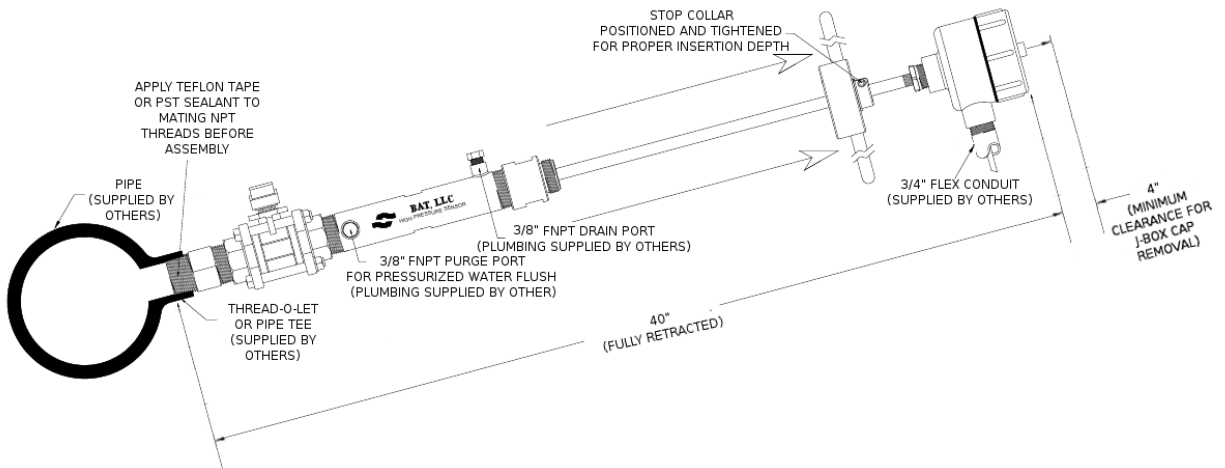

Figure 2. Hot Tap Assembly (Fully Retracted Sensor, Valve Closed)
- Allow enough room for the installation of the hot tap assembly at full extension and an additional 4" clearance for the removal of the junction box cover (#12). For the pre-assembled 546 high-pressure hot tap, the distance (at full extension) is approximately 40" from the tip of the guide nipple to the top of the junction box. See Figure 2.
NOTE: Ensure that the $\frac{3}{8}$ " drain/purge ports on the extraction housing assembly (#5) are sealed. See Figure 2
2. Pull the junction box (#12) until the sensor is in a fully retracted position. See Figure 2. NOTE: Maintain hand control throughout this step to avoid damaging the sensor and/or the hot-tap sub-assemblies.
4. If utilized, purge and drain residual process via the $\frac{3}{8}$ " drain/purge port on the extraction housing assembly (#5). See Figure 2.